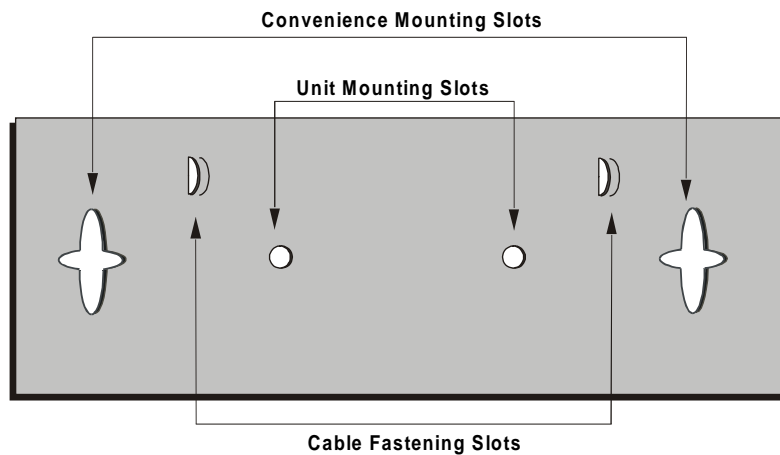

Figure 2-2. Wall Mounting Plate
| Figure 2-2. Wall Mounting Plate | 7 |
3. Align the Unit Mounting Slots (see Figure 2-2) with the slots you have just unscrewed.
5. Align the Convenience Mounting Slots (see Figure 2-2) with the nails, push the wall mount against the wall and let it slide down until it rests on the nails.